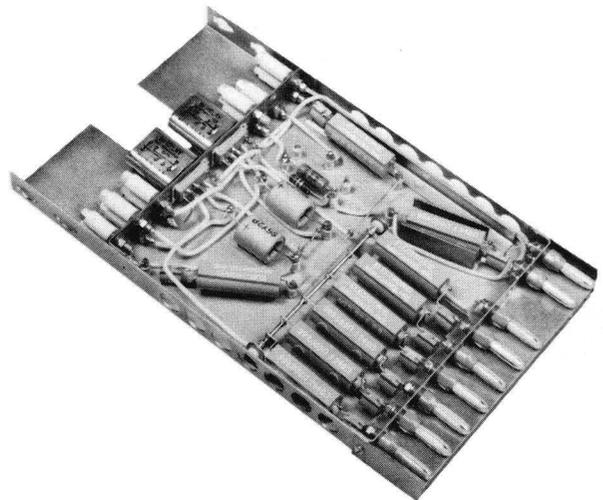

Figure 29. Combination Network 12.002.
(1) *Combination Amplifiers.* Dual purpose operation of the eight combination amplifiers is made possible through the use of Combination Network 12.002 (fig. 29), and Integrating Capacitor Assembly 12.031. The combination networks contain input and feedback resistors for three gain-of-10 inputs, and three gain-of-1 inputs. The network also contains two resistors to establish the initial condition of the integrator, and two relays to control operation of the network and amplifier.